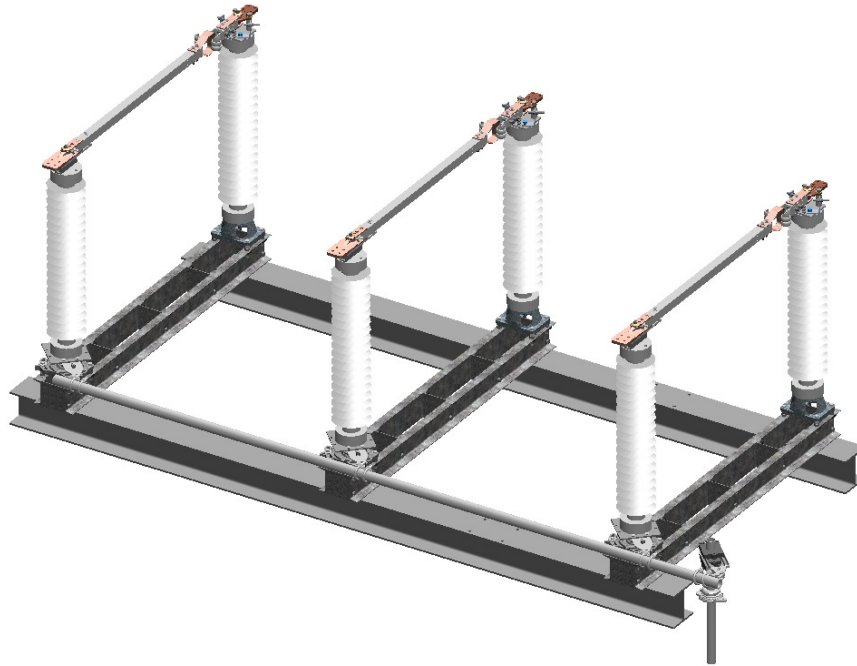
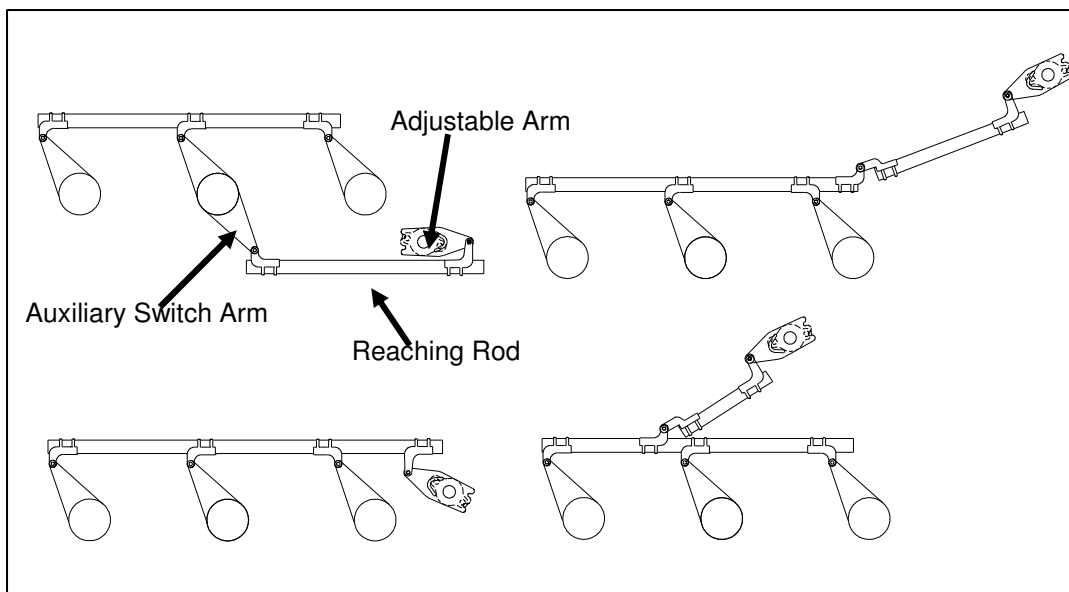

Figure 13: Typical Operating Mechanism For ES-1
Figure 14: Alternate Operating Mechanism Designs
- 5.2. **Figure 13** shows a typical operating mechanism for a ES-1 side break switch. **Figure 14** shows alternate operating mechanism designs, each of which is employed as being the simplest arrangement for a given structure. In all cases, however, the operating principle remains the same, and the methods of installation and adjustment are virtually identical.